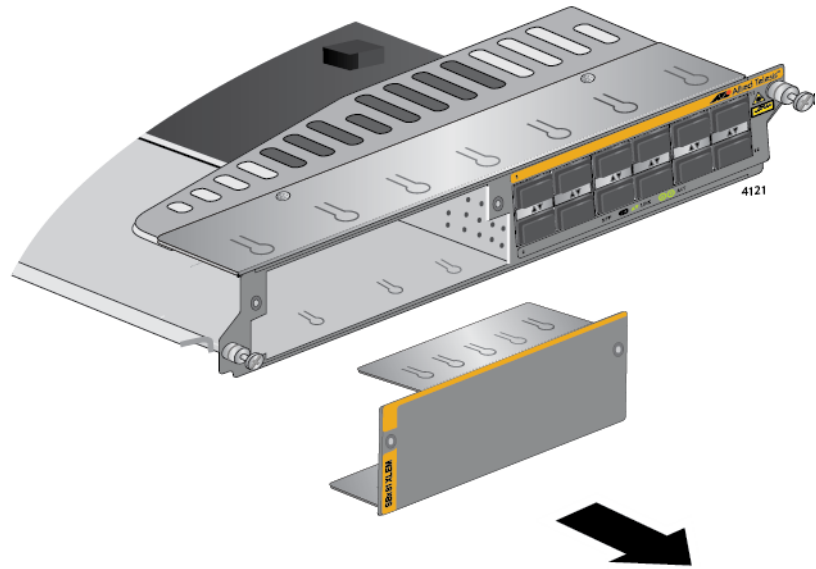

Figure 74. Removing the Blank Slot Cover from the AT-SBx81XLEM Line Card
5. Slide the blank slot cover from the slot. Refer to Figure 74 on page 138.